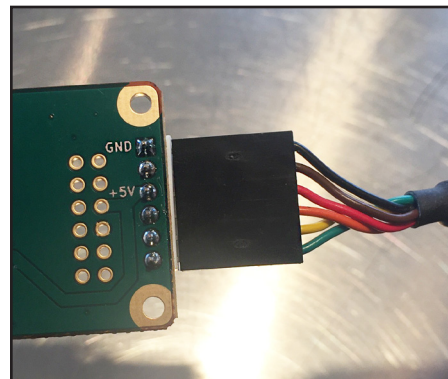

Figure 3: Connecting FTDI cable to SCD
3. Plug the 6-pin connector on the FTDI USB to Serial cable into the 6-pin header connector on the SCD. Align the black wire on the FTDI cable with “GND” on the SCD, as shown in Figure 3.